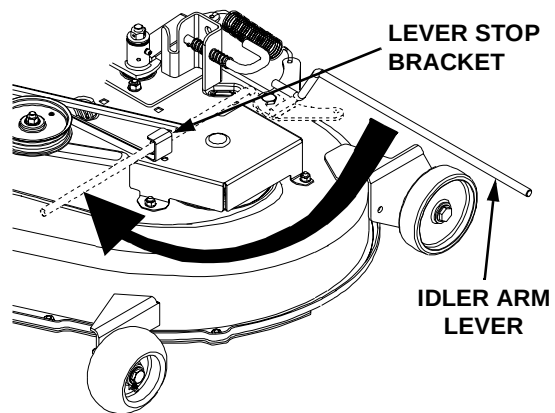

Figure 62
17. While holding the belt in position, rotate and engage the deck idler arm lever into its stop bracket to provide tension on the PTO belt (Refer to Figure 62).